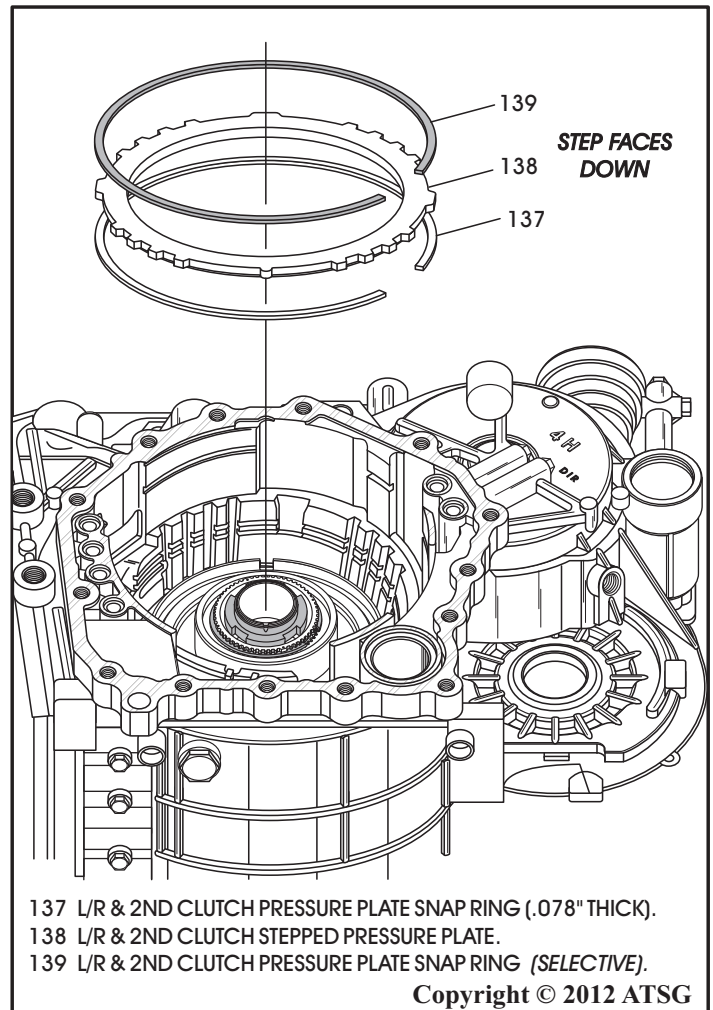

Figure 243
12. Install the .078" snap ring, the pressure plate with step facing **down** and the selective snap ring, as shown in Figure 243.